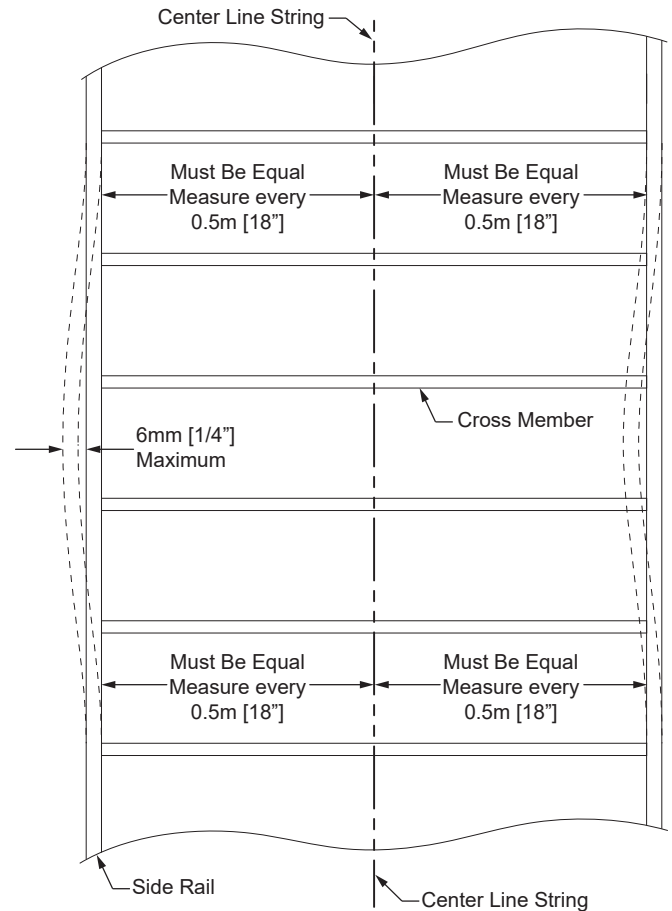

Figure 1
2. Stretch a string tightly down the centre of the entire frame to use as a straightness reference. Make sure the string doesn't contact anywhere but at its ends! Measure every 0.5m [18"] along the length of the frame from the side rail to the string. These measurements will show any bowing of the side rails and lower side walls. Repair bowing that is more than 6mm [1/4"] (fig. 1).